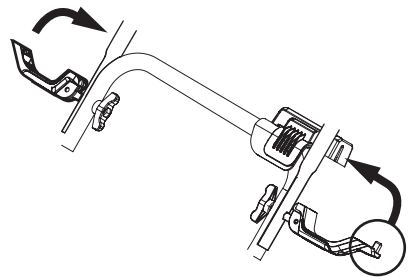

Figure 5
6. Flip the two handle levers (unlocked in STEP 4) up to the locked position to secure the upper handle in the operating position (Figure 5).